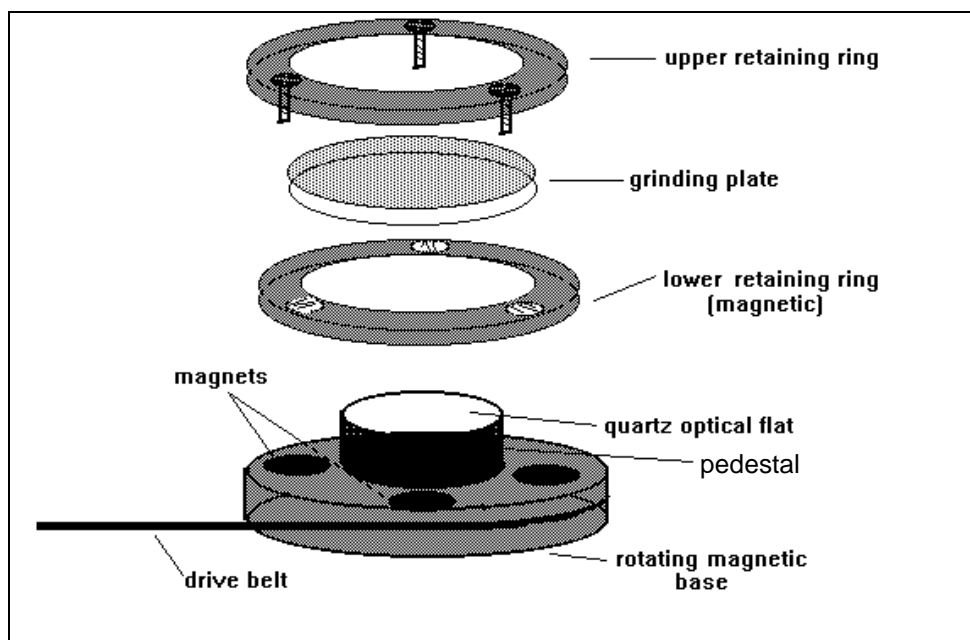

Figure 5. Pedestal/grinding plate assembly.
- **Assemble grinding plate system as described below. See Figure 5.**
➤ **Assemble optical attachment if supplied. — See Figure 5.**